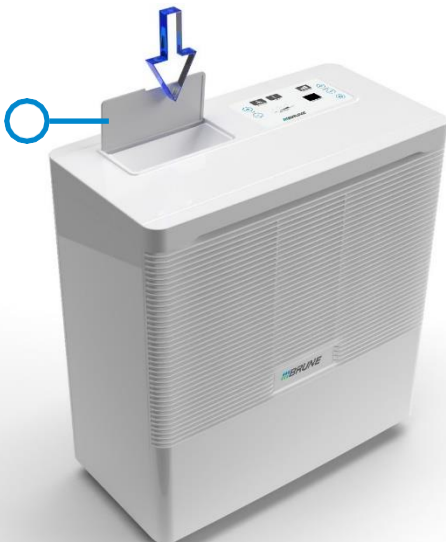

Fig. 3.2.2: Filling the water tank
1. Open the filler flap (Fig. 3.2.2/1).